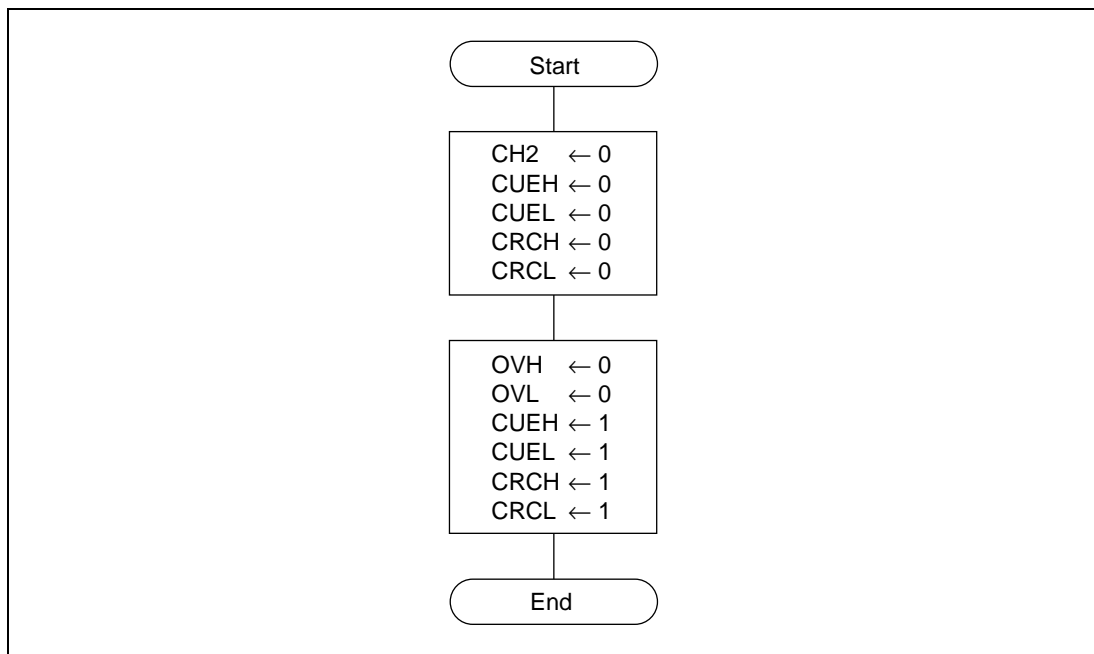

Figure 2 Example of Settings for 16-bit Asynchronous Event Counter
4. Figure 2 shows an example of settings when using the circuit as a 16-bit asynchronous event counter.
Upon reset, CH2 is cleared to 0, so that after reset ECH and ECL operate as a 16-bit event counter. In addition, the circuit will also operate as a 16-bit event counter by using the settings shown in figure 2. The operating clock source is the asynchronous event input from the AEVL pin. When the next clock pulse is input after the count values for both ECH and ECL reach H'FF, ECH and ECL overflow, the OVH flag of ESSSR is set to 1, the count values of ECH and ECL are both returned to H'00, and counting-up is restarted. Upon occurrence of overflow, the IRREC bit of IRR2 is set to 1. At this time, if the IENEC bit of IENR2 is 1, an interrupt request is sent to the CPU.